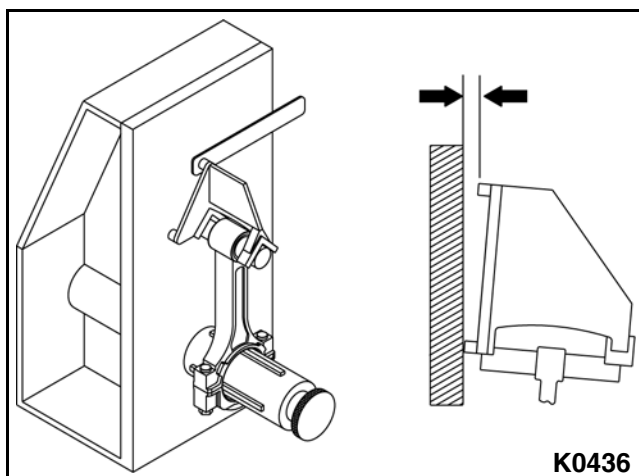

Figure 3-208
1. Using a rod aligner, check the connecting rod alignment for bend or twist. **See Figure 3-208.**